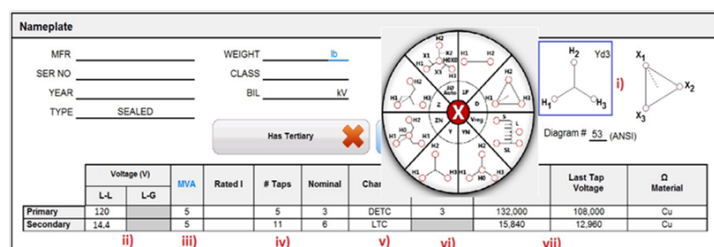

Figure 6: Nameplate Input
- b. Select Test Current. If “Recommended” is selected, operator MUST input transformer nameplate information for “L-L Voltage + kVA/MVA” of transformer (see Figure 6 above).
- h. Make/Break Sensitivity – Only used when OLTC is selected in the Transformer Nameplate input (Figure 6 above). The general rule is to set lower time (5msec) for better type OLTC units. For some older OLTC units, and for small pole top regulators, the sensitivity is set higher than 5msec (up to 100msec). Above 200msec will create a current discharge action within the MTO current source.
1. An automated sequence is determined and test operates through each winding and tap as required –  . Method 1 allows an automated sequence of winding resistance testing defined by *Transformer Nameplate Input* (Figure 6 above) and *Resistance Test Wizard*.